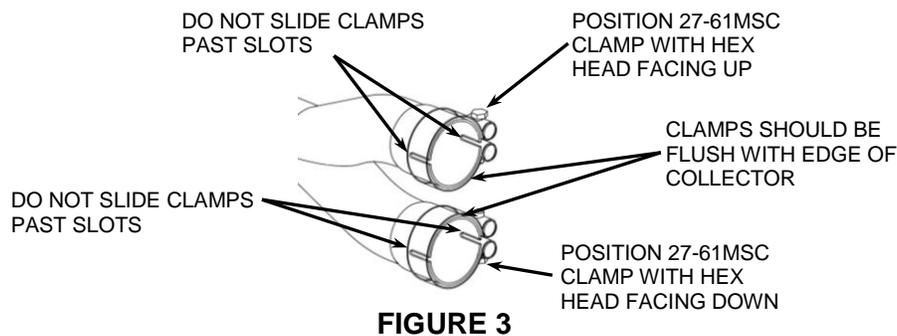

FIGURE 3
12. Secure the muffler assembly to the exhaust mount bracket using the (2) supplied 5/16"-18 bolts but **DO NOT TIGHTEN**.
13. Make sure the muffler assembly, front headpipe, and rear headpipe are straight and parallel and tighten in the following order; headpipe flanges to the cylinders (slowly tightening opposing nuts), muffler assembly to the exhaust mount and finally the muffler clamps. (NOTE: The muffler clamps should be flush with the end of the muffler inlets when tightened. See **FIGURE 3**. If the muffler clamps are slid past the slots on the muffler inlets the clamps will not tighten properly).